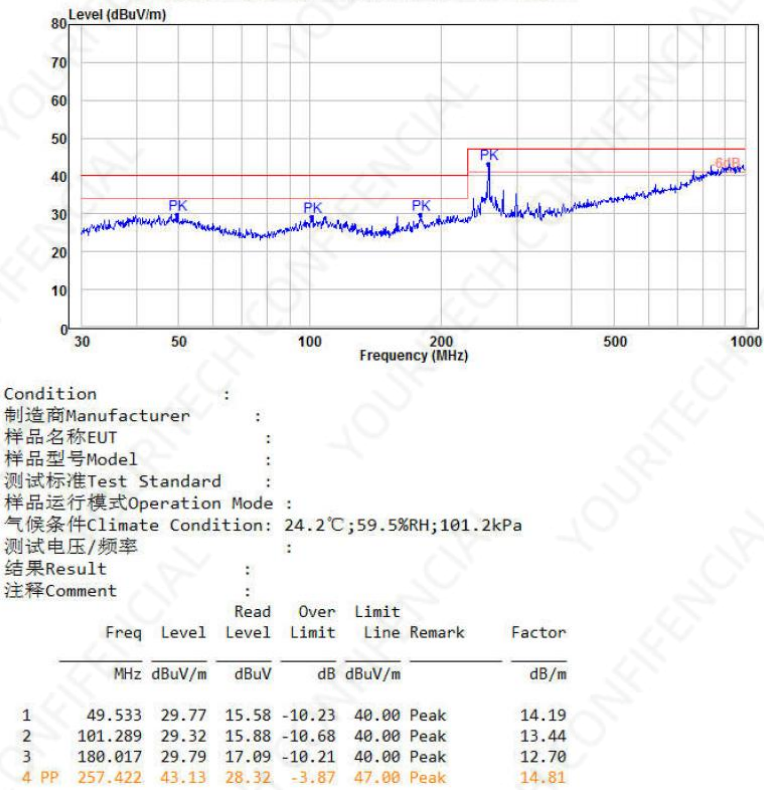

Figure 6-6 Horizontal direction of radiation measurement
- Radiation test data in the horizontal direction, as shown in Figure 6-6.